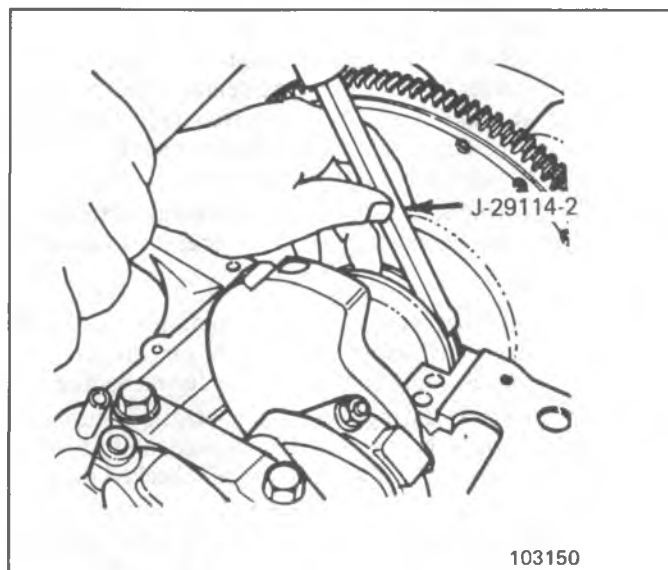

Fig. 6A7-36--Using Parking Tool Upper Half
3. Use packing tool J-33154-2 and gently drive upper seal into groove approximately 1/4". Do this on both sides (Figure 6A7-36).